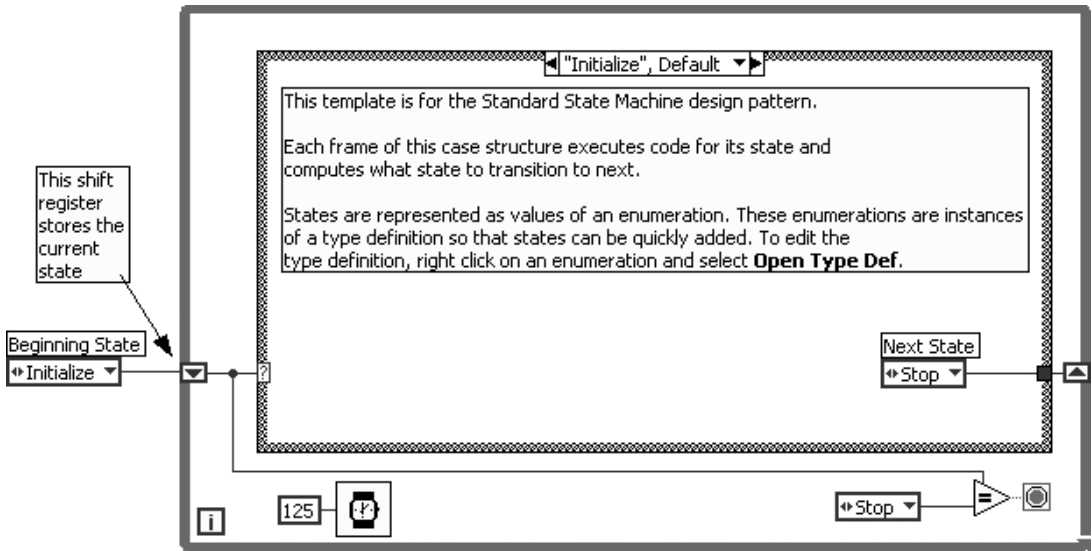

Figure 13.72
4. Your block diagram should initially look like the one in Figure 13.72.